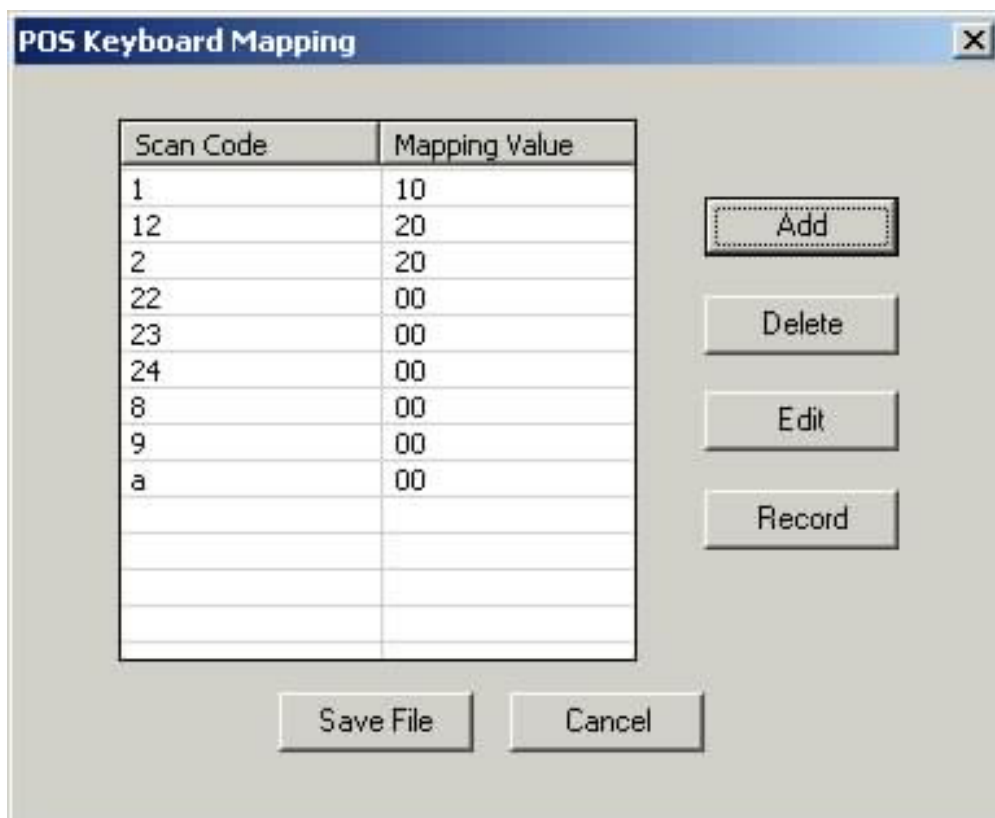

Figure 23. Sample POS keyboard mapping dialog
5. Enter the name of the POS keyboard mapping file. If the file exists, it is read and the values are displayed in the POS Keyboard Mapping window (see Figure 23).